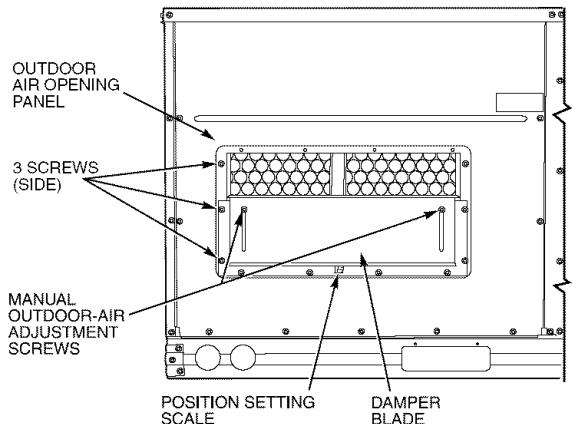
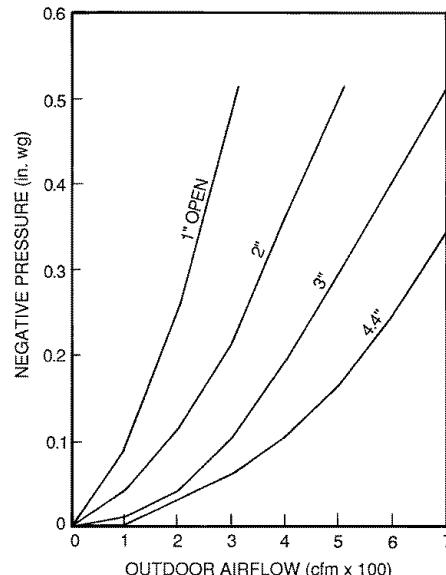

Fig. 12 — Damper Panel with Manual Outdoor-Air Damper Installed
Fig. 15 — Outdoor-Air Damper Position Setting
2. Remove and save outdoor air opening panel and screws. See Fig. 12.
8. Adjust minimum position setting of the damper blade by adjusting the manual outdoor-air adjustment screws on the front of the damper blade. See Fig. 12. Slide blade vertically until it is in the appropriate position determined by Fig. 15. Tighten screws.